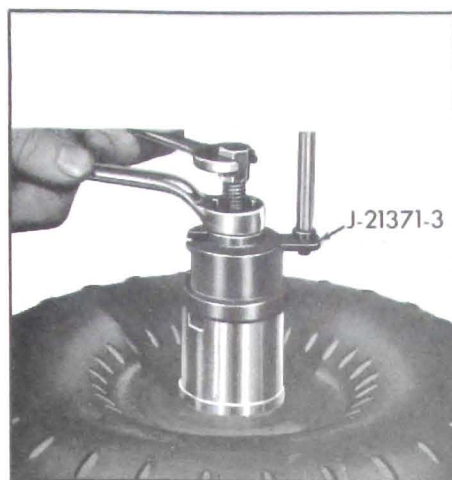

Figure 5-688
b. Install Tool J-21371-3 and tighten hex nut. See Figure 5-688.